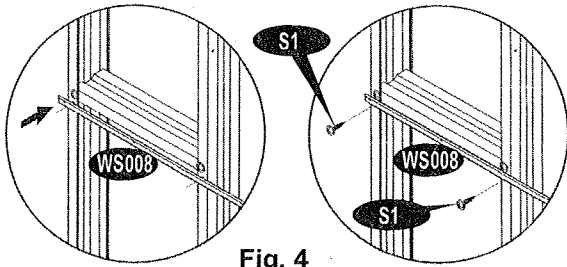

Fig. 4
9. Place wall middle support back (WS008) on both left and right with (S1) screws. See fig. 4.